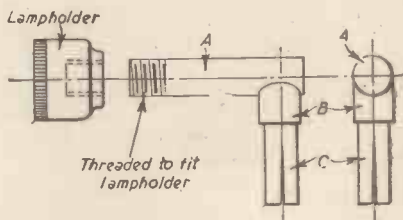

Fig. 4.—The swivel-head joint.
threaded tube made to screw into the lamp-holder may be purchased at any popular stores. It is then a simple matter to solder a short length of it to the tube A. A short length of tubing (B) is filed out at one end to fit the tube A at right angles. C is a 1 1/2 in. length of tubing of a diameter that permits a snug fit into B. Two saw-cuts an inch long are made down the tube so that four tongues are formed. These are opened slightly, thus affording a good spring fit into the uppermost tube of the lamp assembly. Then, referring to Fig. 4, C is soldered into B and B to A.